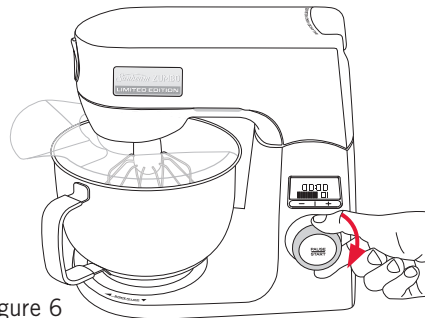

Figure 6
5. Turn the speed control dial clockwise to commence mixing (Fig. 6), or, if a speed is already set, press the **PAUSE START** button.